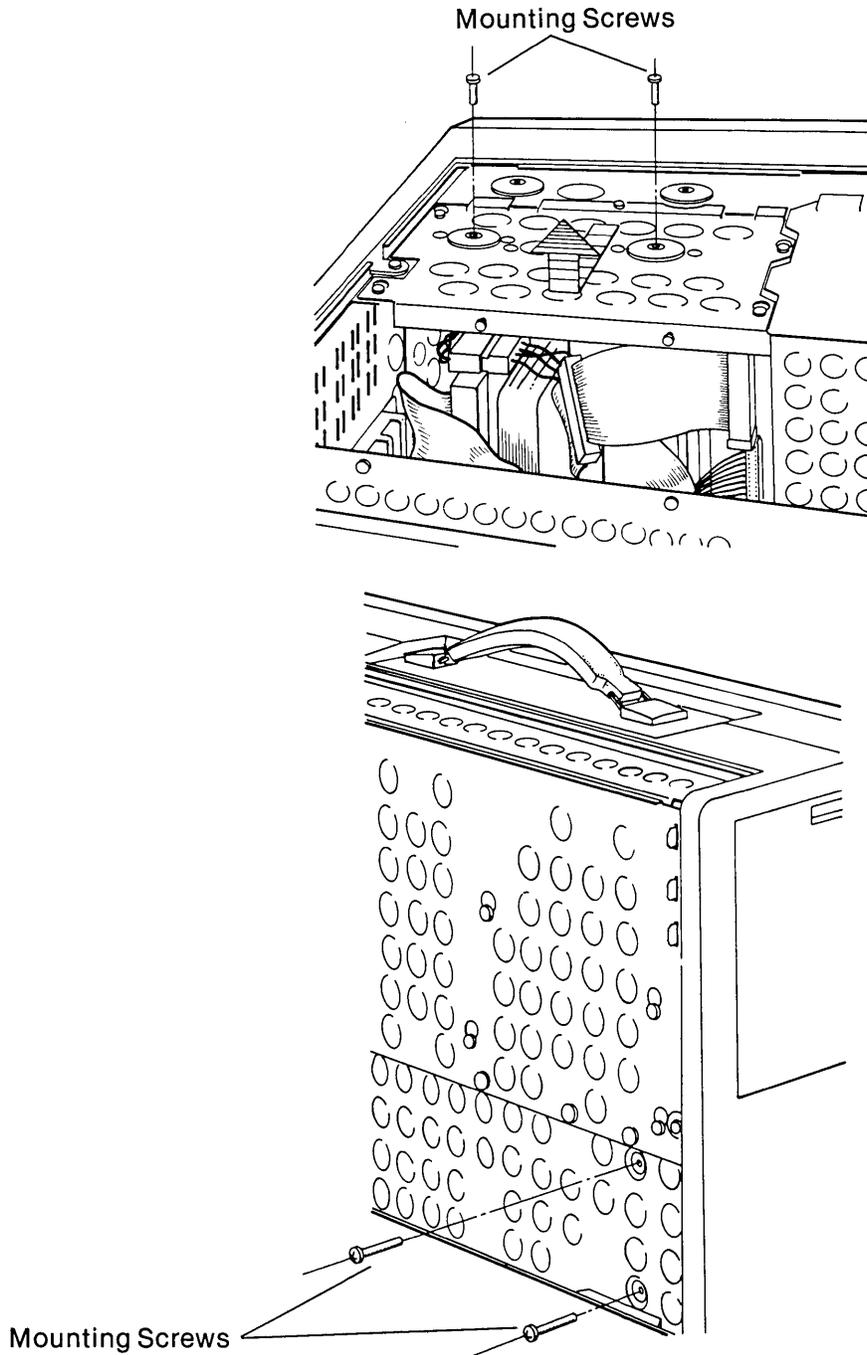

Figure 10-18. Removing Bottom and Top Mounting Screws from Fixed Disk Drive.
- 12 Place the computer so that the screen is facing down towards the workbench. Remove the bottom mounting screws and the remaining top mounting screw from the defective fixed disk drive (see Figure 10-18).